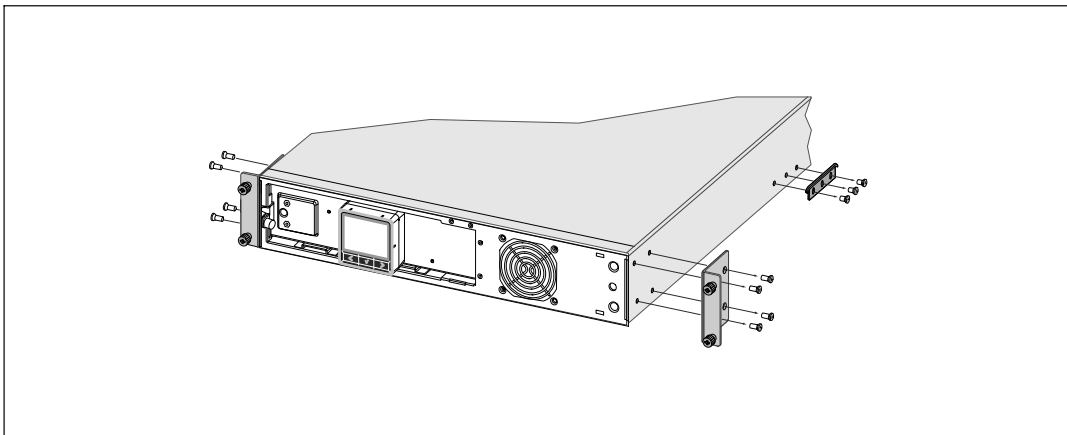

Figure 19. Removing the Mounting Brackets and Rear Hold-Down Brackets
- 1 Remove the mounting brackets and the rear hold-down brackets from the UPS using a Phillips® #2 screwdriver (see Figure 19).